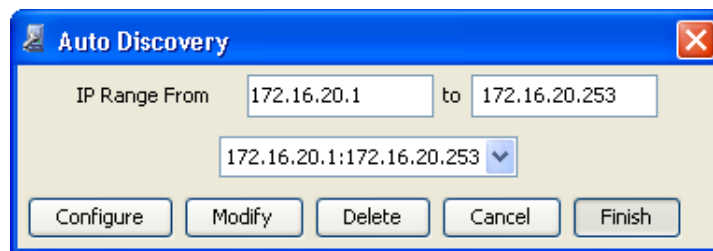

Fig. 4.45 Auto Discovery Dialog Box
2. Double-click on the current value under IP scan range row to open the Auto Discovery dialog box. (See *Figure 4.45*)